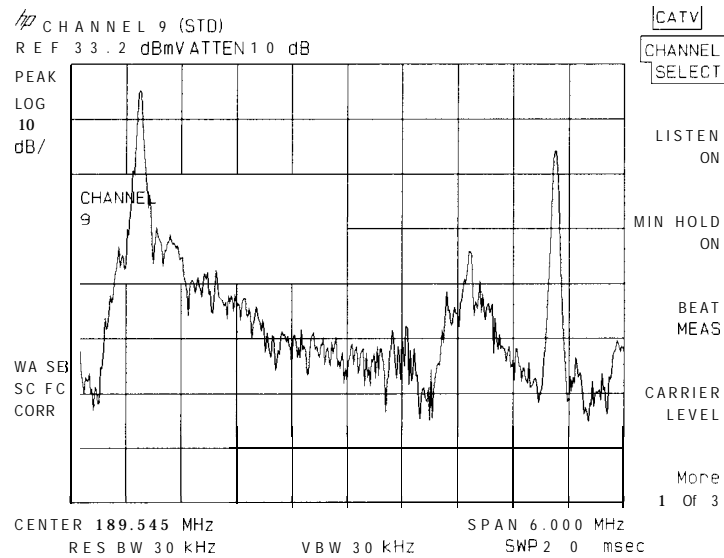

Figure 2-3.
4. The current channel number appears next to the channel format at the top of the screen in the title line. See Figure 2-3.